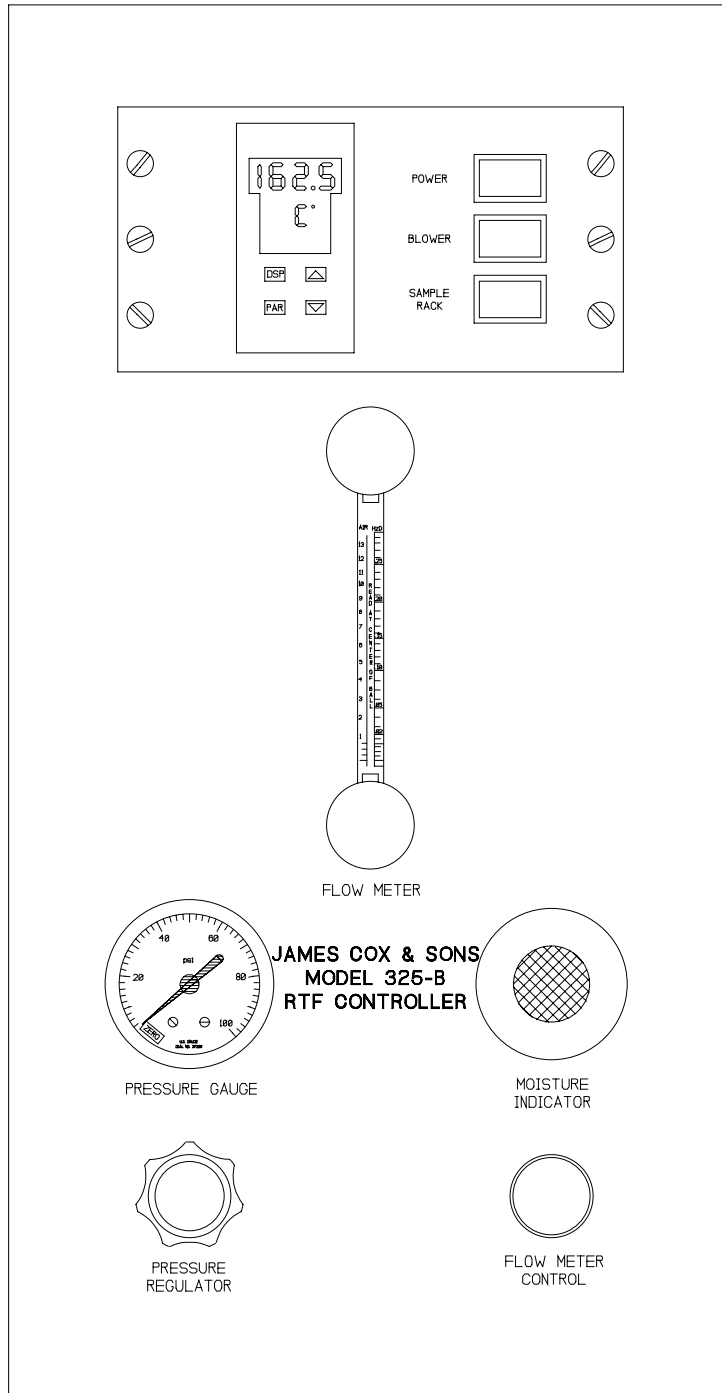

Fig. 1
8.	Control Panel Layout-Front Fig.1